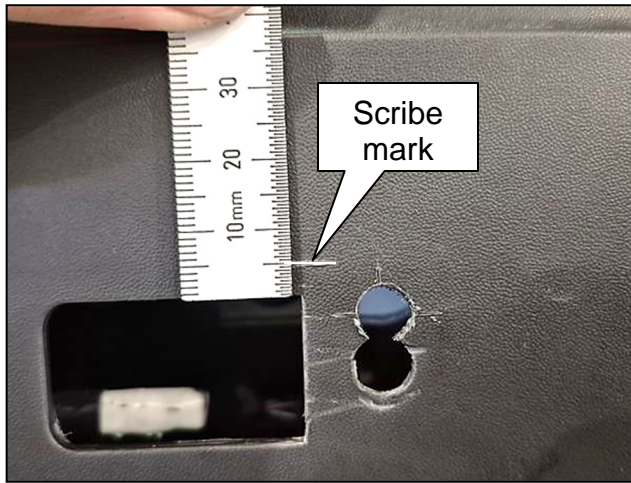
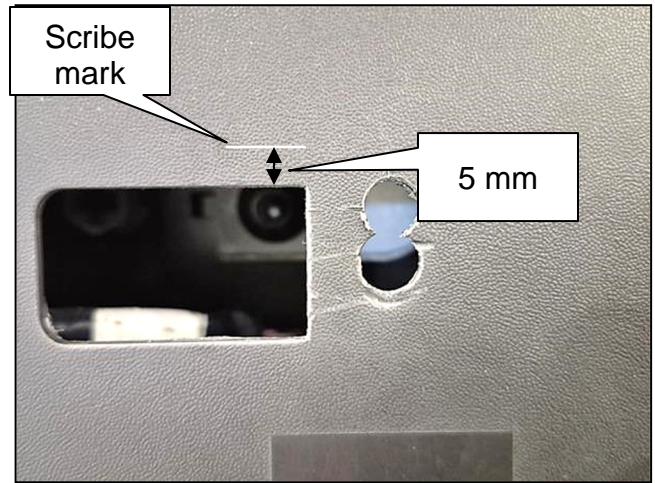

Figure 10
Figure 11
6. Measure 5 mm up from the top outboard corner of the square cut-out and then make a horizontal scribe mark, as shown in Figure 10 and Figure 11.